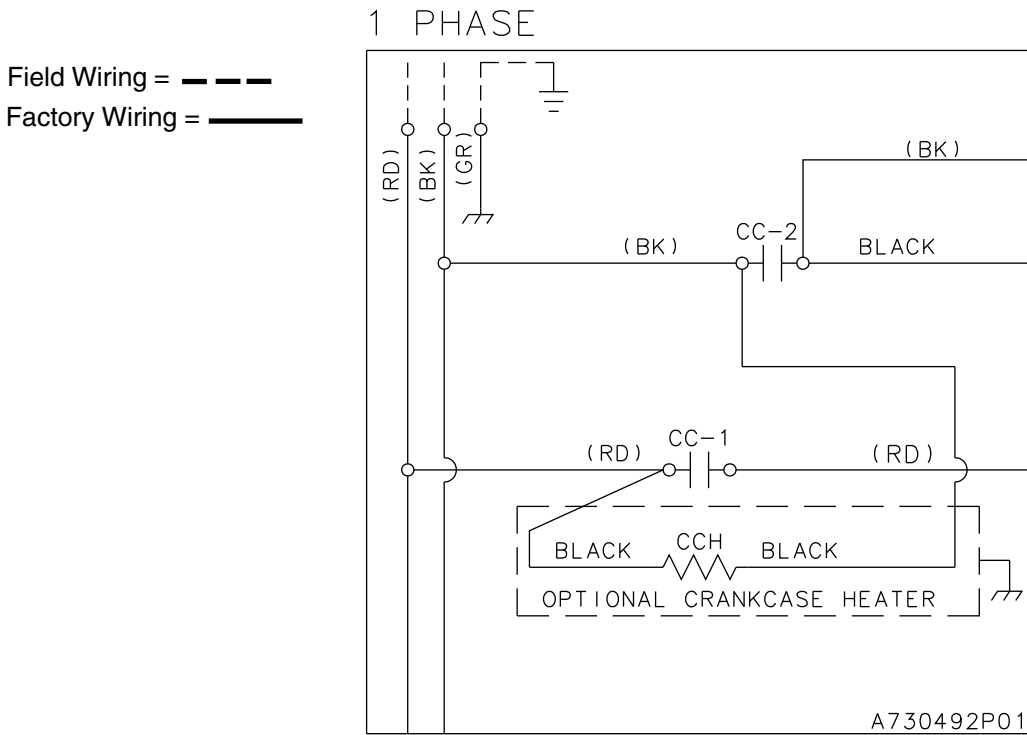
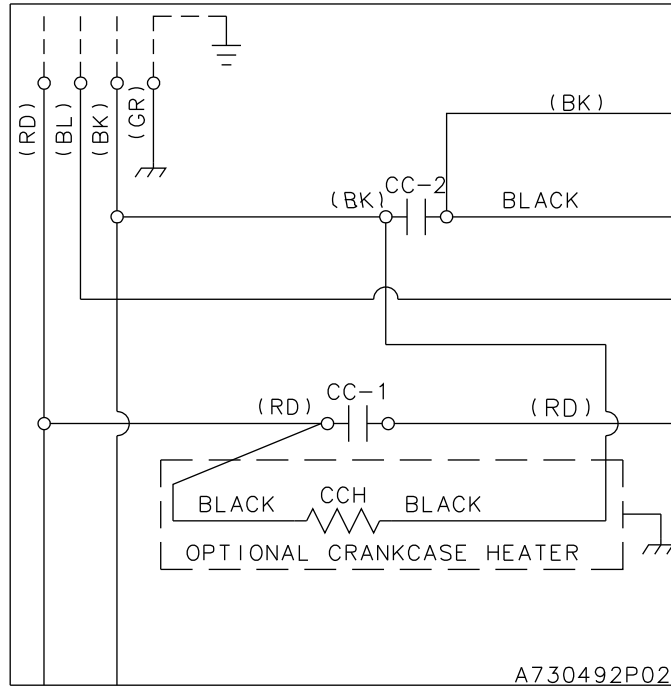

Figure 4. Single Phase Wiring
Figure 5. Three Phase Wiring
(CC) compressor contactor as shown in the diagram. Refer to Figure 4 if you have a single phase unit. Refer to Figure 5 if you have a three phase unit.
NOTE: Connect both leads on the line side of the contactor. (See Figures 4 (page 3) or 5 (page 4))